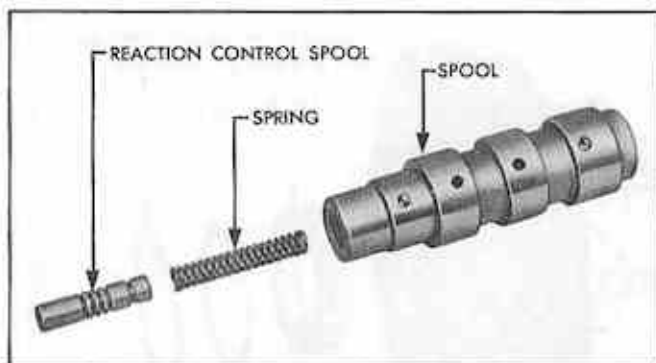

Fig. 58 Reaction Control Spool and Spring
5. Turn spool over to remove reaction control spool and spring (Fig. 58). NOTE: Caution should be taken not to drop reaction spool.